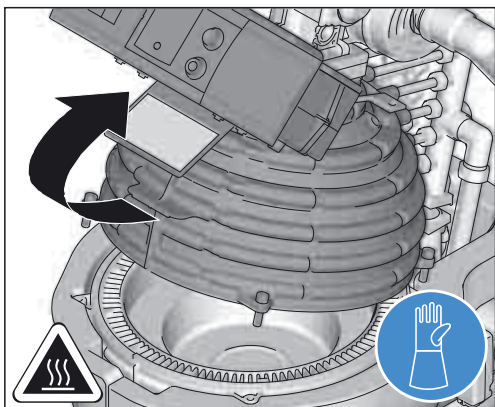

Fig. 9-12 Hinge the top half of the burner chamber upwards.
- Hinge the top half of the burner chamber upwards (fig. 9-12). An air pressure spring keeps the upper half of the combustion chamber open.